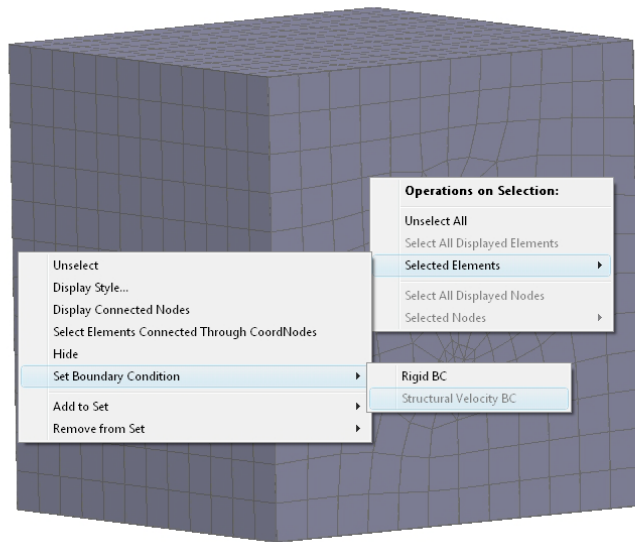

Figure A.18 Apply boundary conditions through selected elements.
- Again right-click on the mesh while holding down the *shift-key* and select: **Selected Elements** → **Set Boundary Condition** → **Structure Velocity BC** (as shown in Figure A.18). If the boundary condition **Structure Velocity BC** is inactive, it implies that it has already been applied over the selected elements.